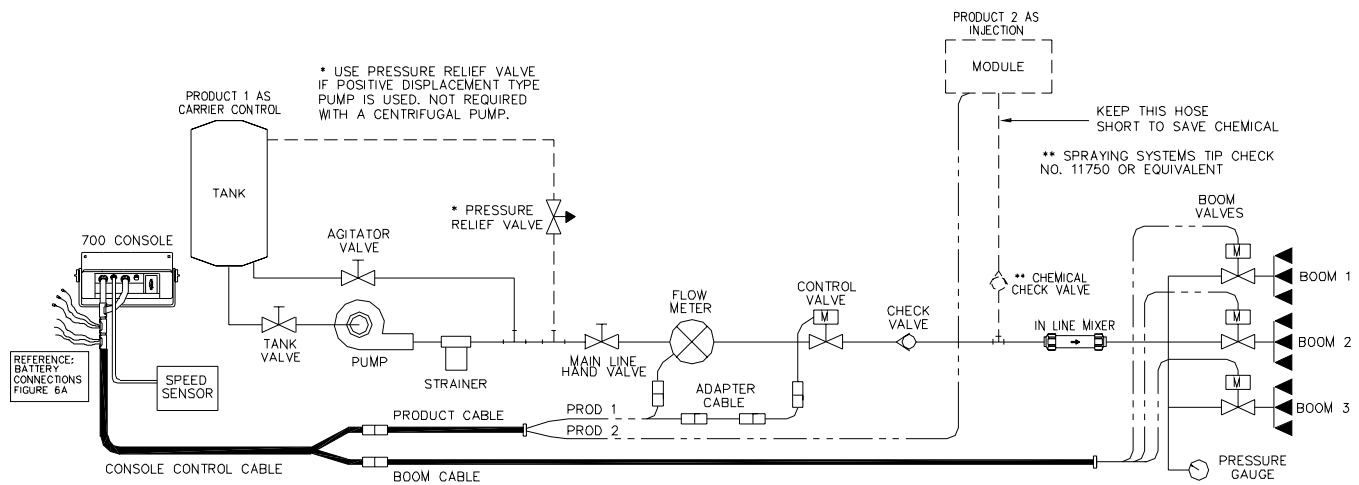

FIGURE 4
- 1) Mount Flow Meter in the area of the boom valves per Figure 4. All flow through Flow Meter must go to booms only, i.e., no return line to tank or pump after Flow Meter.
- 2) Install Product Cable to the connectors on the Injection Modules (Prod 1-White, Prod 2-Black) and Boom On/Off Valves (Boom 1-Black, Boom 2-Brown, Boom 3-Blue). Secure with plastic cable ties. (See Figures 4 & 5).